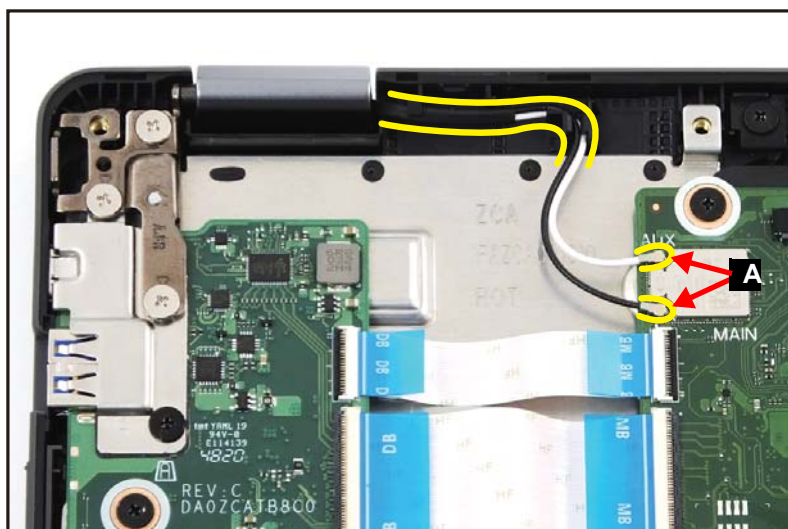

Figure 1-16. LCD Module Removal
1. Disconnect the WLAN antennas cables from the WLAN module connectors (A). Then unroute the WLAN antennas cables from the cable guides (Figure 1-16).